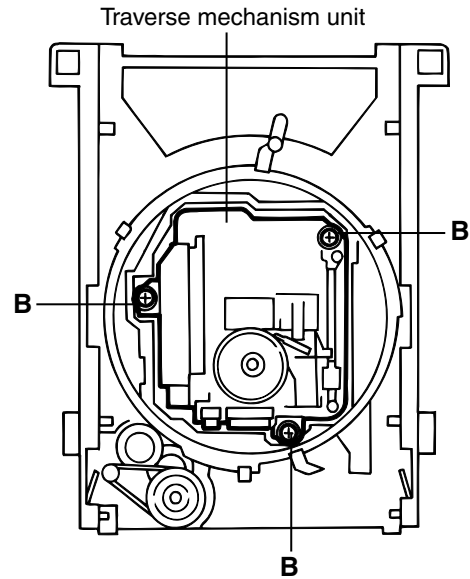

Fig.5
■ **Removing the traverse mechanism unit** (See Fig.5)